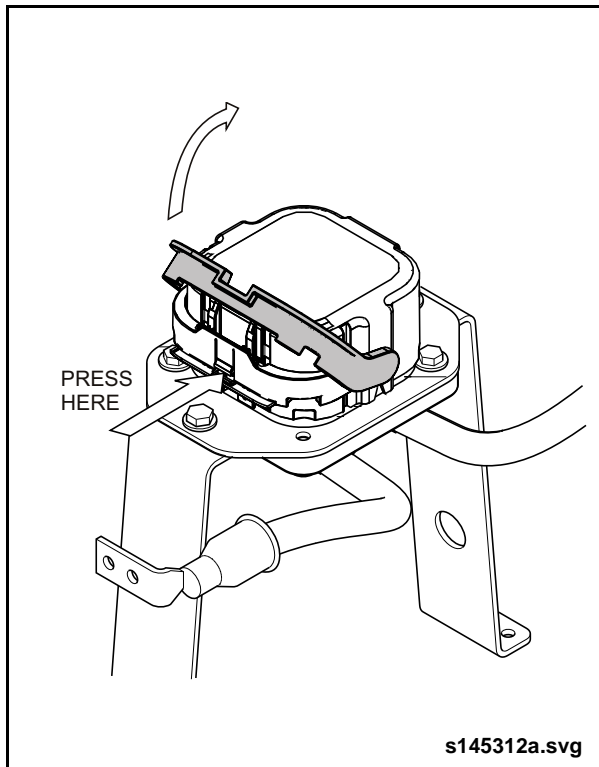

Fig. 7: Manual Service Disconnect - 2
- b. Press the locking tab and rotate the MSD lever to the 90° position. See “Fig. 7: Manual Service Disconnect - 2” on page 7.